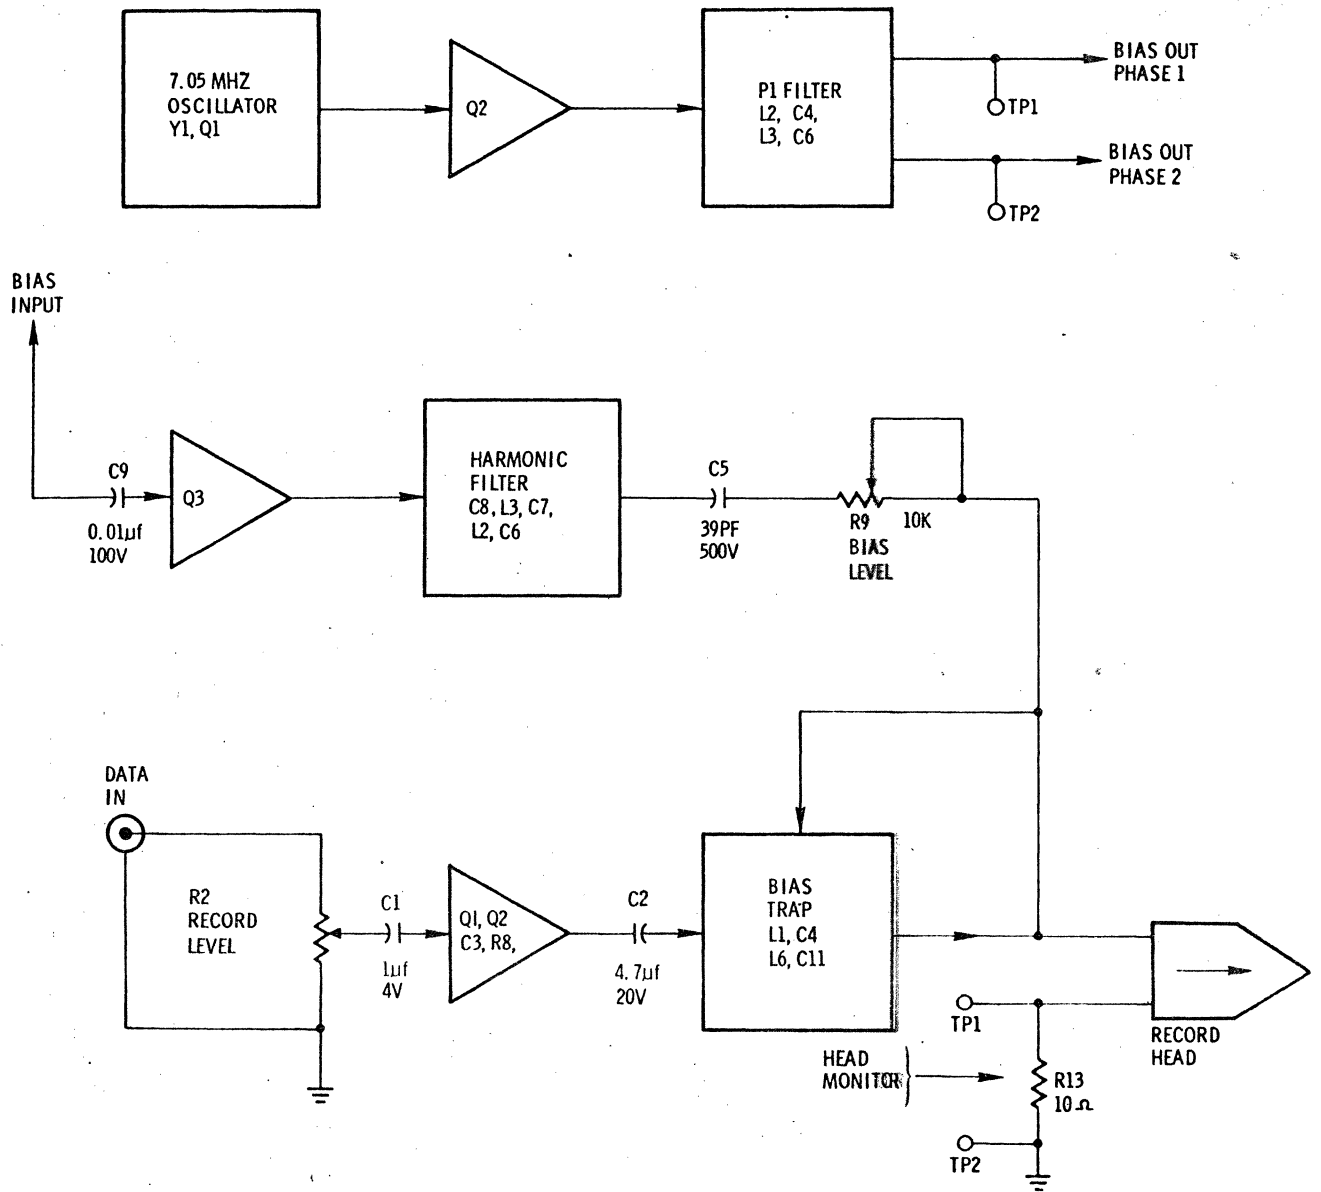

Figure 3-17. Direct Record and Bias Amplifier Functional Diagram.
**3-49. DIRECT/ANALOG RECORD AMPLIFIER.** Refer to Figure 3-17. The direct/analog record amplifier consists of a data signal amplifier (Q1, Q2); a bias signal amplifier (Q3); and a bias trap network, to prevent the bias signal from entering the low-level data amplifier stages.
3-53. **BIAS OSCILLATOR.** Refer to Figure 3-17. The bias oscillator consists of amplifier Q1 with a 7.05 MHz crystal in a positive feedback loop, from collector to base. Oscillator output is coupled to a class-C amplifier (Q2), which acts as a buffer between the oscillator and the filter networks that follow. Class-C operation of Q2 minimizes changes in bias amplitude, due to fluctuations in operating voltages. The pi-configured filter at the output of Q2 removes the harmonics from the bias waveform, and transforms the high impedance collector output of Q2 to a low impedance to drive the bias stages of the record amplifiers. The filter provides two bias signal outputs, which are 180° out of phase with each other. One phase provides bias for channels 1, 5, 9, 13, 4, 8, and 12. The other phase provides bias for channels 2, 3, 6, 7, 10, 11, and 14. This helps to prevent bias crosstalk problems that might otherwise occur in the record heads.